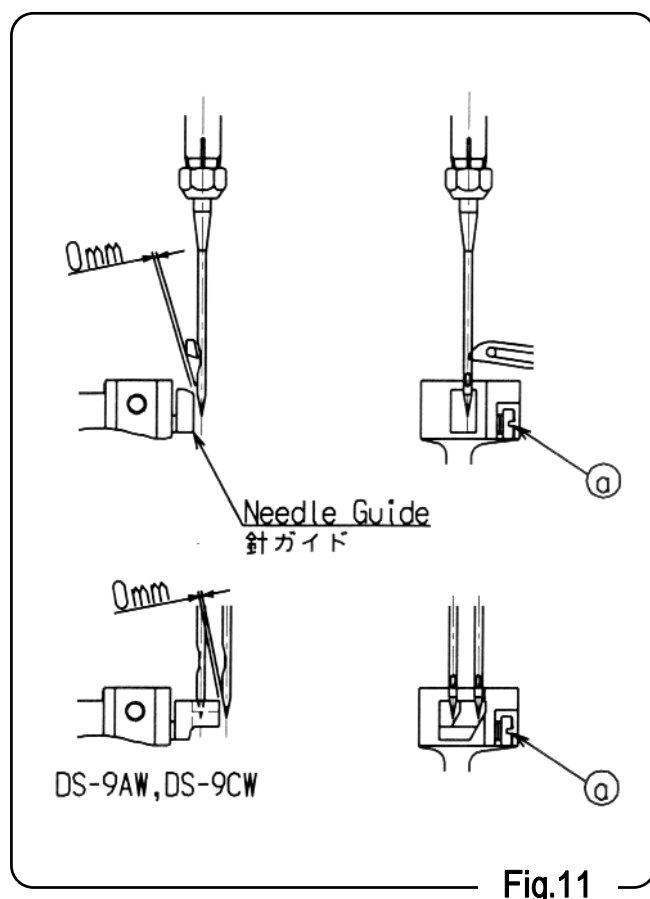

Fig.11
When the stitch width is changed, the needle guide must be adjusted accordingly, as the clearance between the needle guide and the needle will change. Turn the pulley in the forward direction after loosening the screw **a** of Fig.11 and adjust the clearance between the needle and needle guide to zero when the end of the looper comes to the side of the needle, as shown in (Fig.11) and tighten the screw **a**.
- 針ガイドが最も前進したときに(Fig.11)の示すように針との間隔が 0mm になるようにネジ **a** を緩めて調整します。